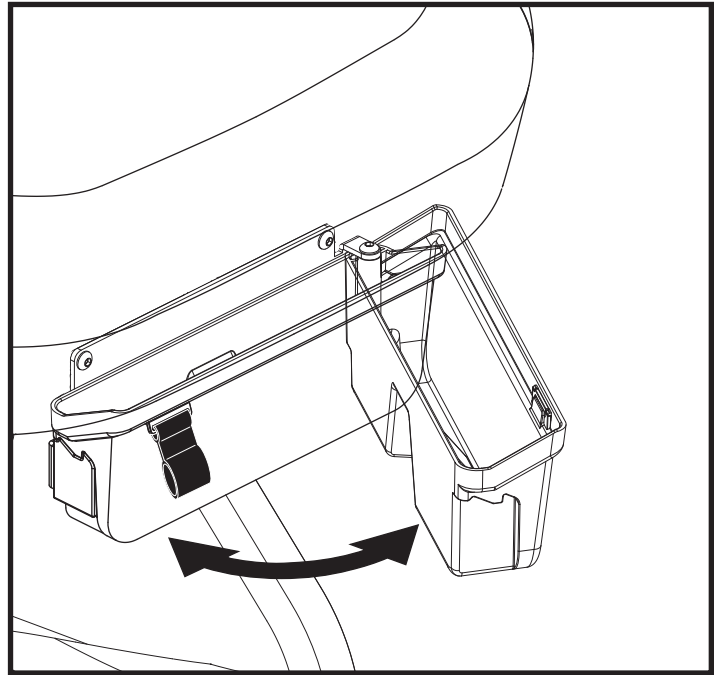

Figure 9. Swing-away Storage Compartment
2. Swing the storage compartment to the open position. **See figure 9.**
1. Open the storage compartment by pulling the storage handle upward and outward. **See figure 9.**
3. Remove the two bolts from the storage bracket. **See figure 9.**